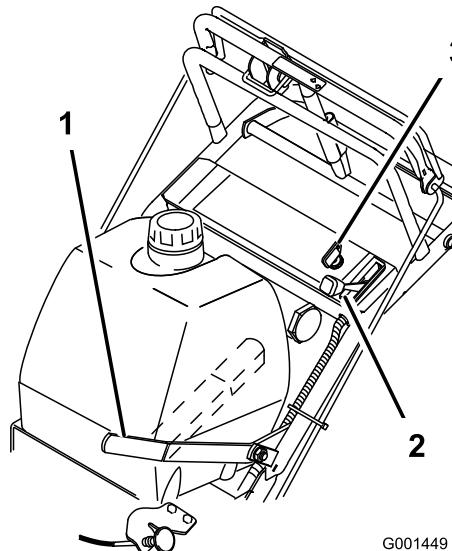

Figure 8
5. Turn the ignition key to the **run** position (Figure 8).
- Pull the choke knob if the engine is cold (Figure 8).
- Move the throttle lever to the **slow** position (Figure 8).
- Turn the ignition key to **off** (Figure 8).